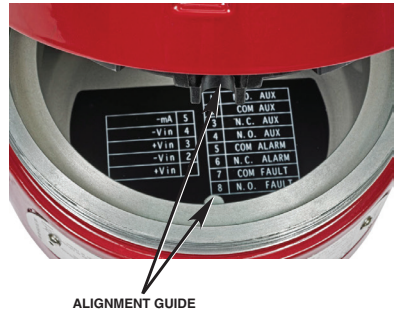

Figure 11—Alignment Guide Location
- Re-install the assembly. Use the alignment guide (see Figure 11) to align the retaining ring with the junction box.